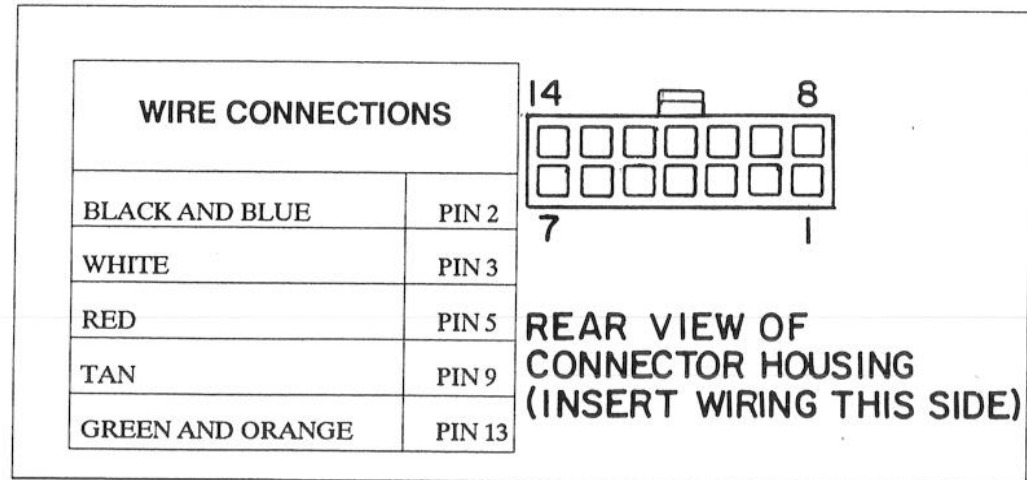

FIGURE 10 - WIRE LOCATIONS
4. Refer to Figure 10 and insert the pins on the relay wires into the empty connector housing supplied with the Option Cable. Plug the connector into P2 of the Option Cable.